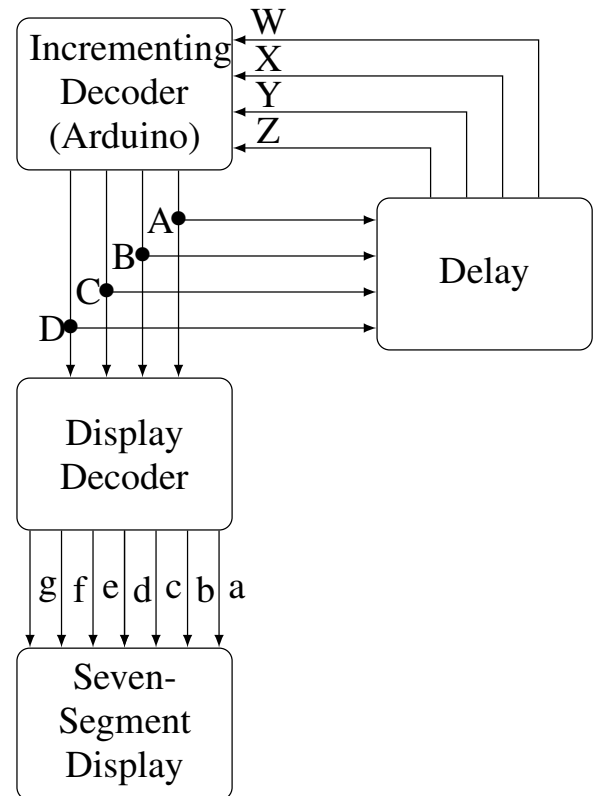

Fig. 3.5
**Problem 3.5.** Use the logic for the counting decoder in Problem 2.8 to implement the decade counter. You may refer to Fig. 3.5 to understand the functioning of a decade counter.